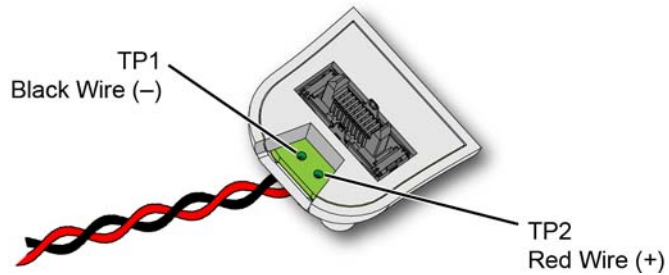

Figure 6 Lead Positions on PC Board
- 2 Flip the head as shown in Figure 6 and insert the leads up through the PC board’s solder holes **TP1** and **TP2**. Insert the **RED (+)** lead at TP2 and the **BLACK** lead at TP1. Solder the leads in place.